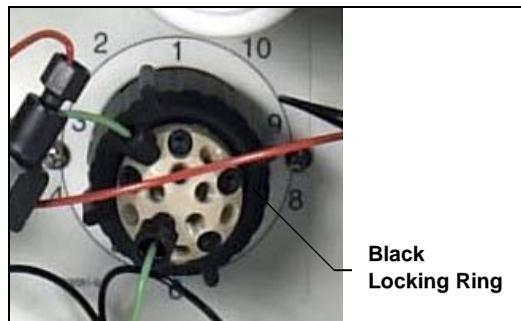

Figure 5-5. Unscrew the Valve Locking Ring
4. Unscrew the black locking ring on the front of the valve (see Figure 5-5) and remove the ring.